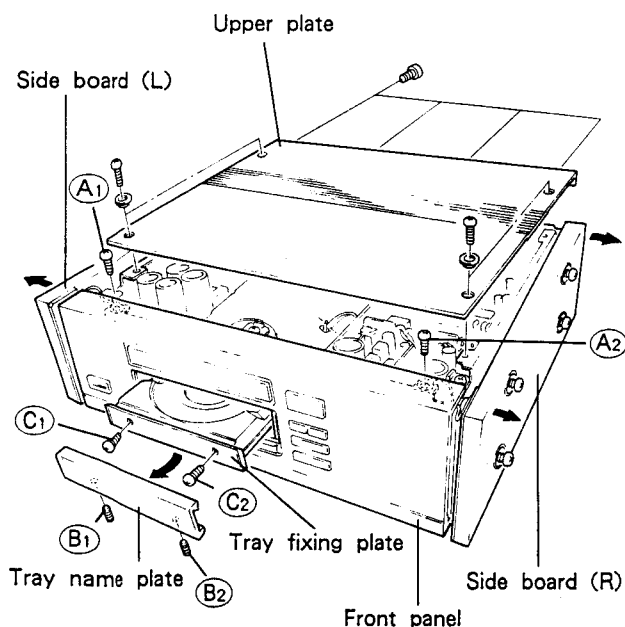

Fig. 2-1.
1. Keep the side boards (L) and (R) apart from the upper plate by loosening the screws ((L, 4) (R, 4)) fixing them. (Be sure not to remove yet since the lead wire for ground is attached to the side sash on the side board (L) and (R).)
3. Remove the screws (A1) and (A2) fixing the ground lead wire for side sash. (Refer to Fig. 2-1.)
4. Remove the side boards (L) and (R).